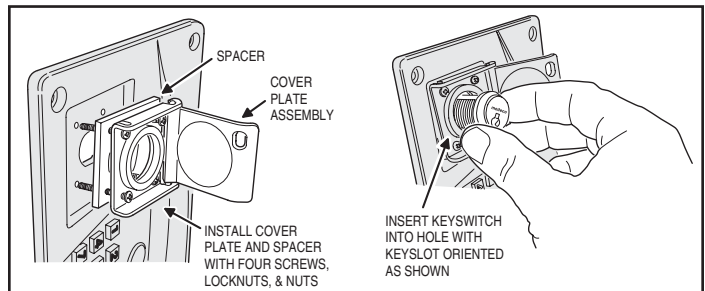

Figure 21. Keyswitch Wire Connections
2. Hold the lock cover and plastic spacer in place on the RE-2 case. Secure the assembly with four screws, lock washers, and nuts. Slide the keyswitch into the hole, oriented as shown (see Figure 21). Secure the keyswitch with the large switch nut.